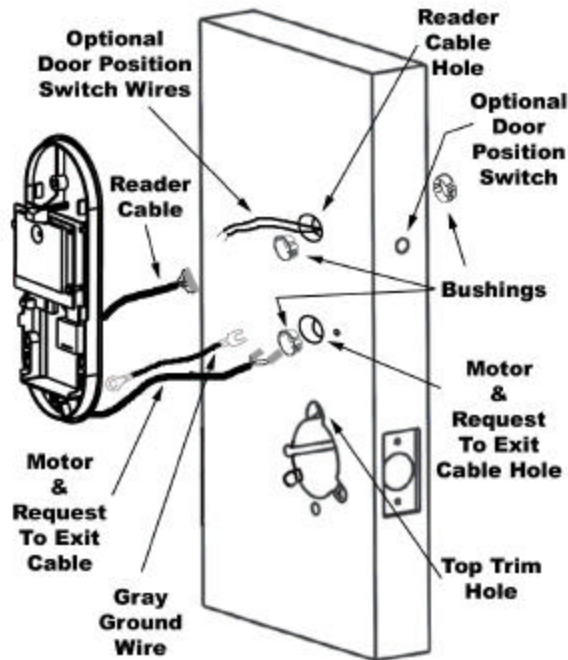

Figure 2-15 – Routing Transceiver Wires and Cables
- 2.10.1 Before mounting the Transceiver, the Reader Cable, Motor & Request to Exit Cable, the optional Door Position Switch Wires, and Gray Ground Wire (ring terminal toward the Transceiver) must be routed into their appropriate locations (Figure 2-15).
- 2.10.1.3 If installing on a metal door, install plastic Bushings in the Motor Cable hole and on Reader Cable Hole both the Transceiver and Reader Side, three bushings total (Figure 2-15).